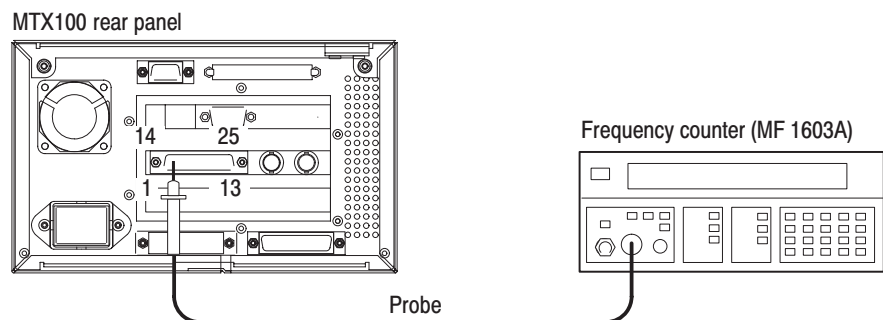

Figure 4-1: Equipment connection for verifying the internal clock frequency
1. Connect the probe to the input of the frequency counter, and then attach the probe tip to **pin 1** of the SPI IN/OUT connector on the MTX100 as shown in Figure 4-1.